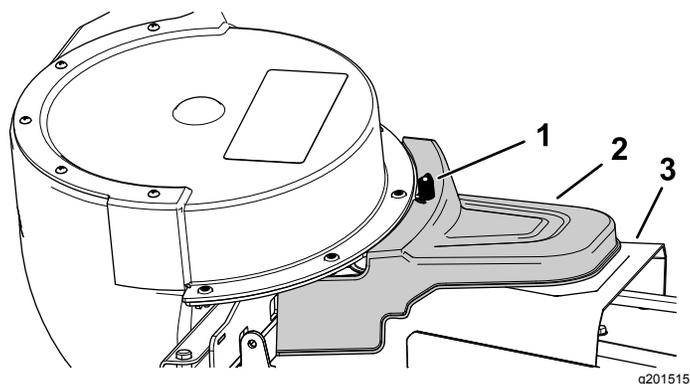

Figure 27
5. Install the powered bagger cover over the belt cover, and secure it by tightening the knob (Figure 27).